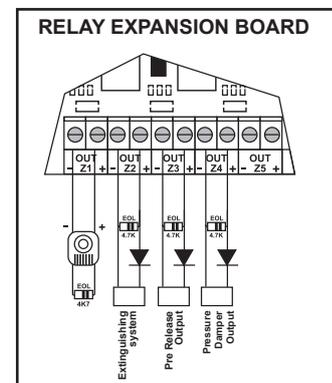
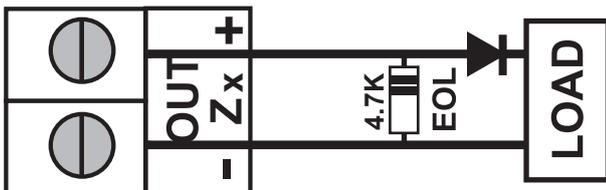

Figure 44. Relay connections for Cross-zoning
Figure 45. Relay output Load connection
The connections on the relay board are as shown in Figure 44.
**The diodes shown on Figure 44 & Figure 45 are extremely important. They are used to block the fault sensing current from unintentionally activating the gas releasing device. Also isolates any loads that may cause the fault circuitry from proper operation.**